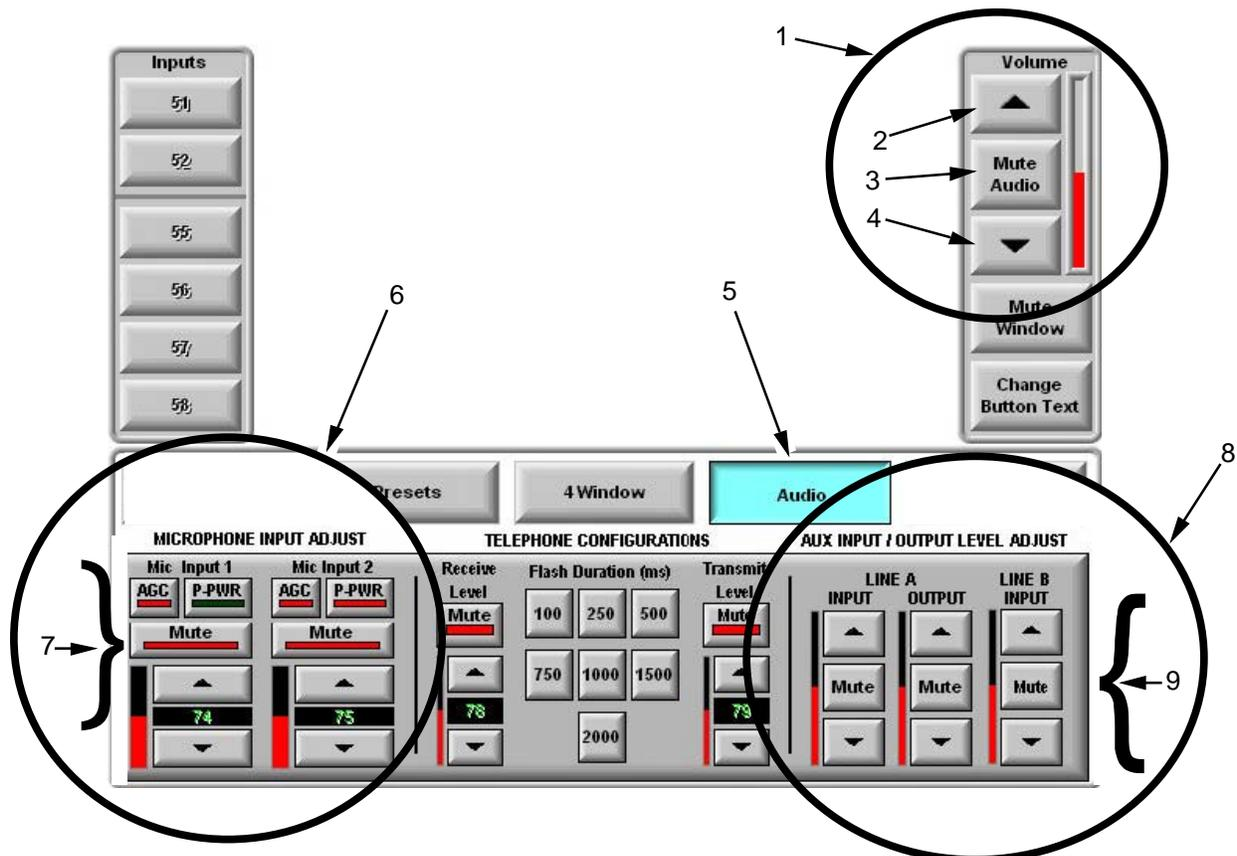

Figure 9. Audio Control Panel.
1. Locate the **Volume** control on the upper right corner of the main screen (Figure 9, Item 1).
2. Press and hold the **Up Arrow** button (Figure 9, Item 2) to raise the output volume to the desired level.
3. Locate and press the **Mute Audio** button (Figure 9, Item 3) to mute all audio output through the rear I/O panel connector labeled SPEAKER.
4. Press and hold the **Down Arrow** button (Figure 9, Item 4) to lower the output volume to the desired level.
1. Locate and press the **Audio** button (Figure 9, Item 5) to access the Audio Panel.
2. Locate the two MIC Input controls (Figure 9, Item 6) on the lower left side of the Audio Panel
3. Identify the **MIC Input 1** Control (Figure 9, Item 7) located on the bottom left of the Audio Panel.
1. Identify the AUX INPUT/OUTPUT LEVEL ADJUST section on the lower right side of Audio panel (Figure 9, Item 8).
3. Press and hold the **Up Arrow** button (Figure 9, Item 9) to raise the audio feed level. Press and hold the **Down Arrow** button to lower the audio feed level.
4. To suppress all input from the audio feed, press the Channel A **Mute** button (Figure 9, Item 9). The feed is muted when the red status bar is showing. Press again to reactivate the channel feed.
1. Identify the AUX INPUT/OUTPUT LEVEL ADJUST section on the lower right side of Audio page (Figure 9, Item 8).
4. To suppress all output from Channel A, press the Channel A **Mute** button (Figure 9, Item 9). The feed is muted when the status bar is red. Press again to activate the channel feed.